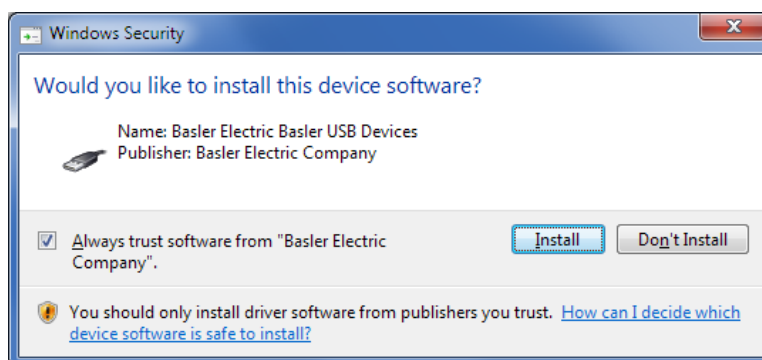

Figure 9-6. Windows Security
Step 6. If a Windows Security window (Figure 9-6) appears, click Install.